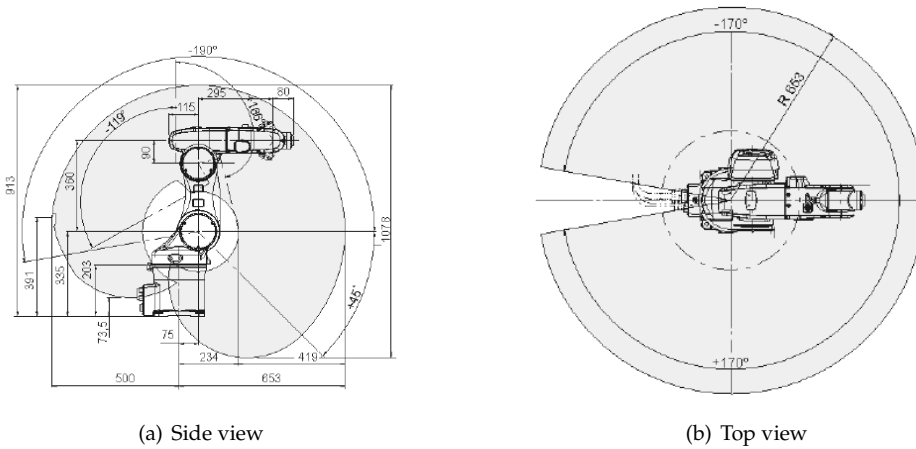

Figure 1.3: Working envelope
The working envelope diagram is presented in figure 1.3. All distances measures are in millimetres. The working envelope is 1,000 mm3. Two weaknesses of the robot is shown on the figure 1.3. It exists two dead zones where the robot cannot perform:
- On the figure 1.3(b), we can see that the robot have a dead angle of 20° behind the base.
- On the figure 1.3(a), we can see that the robot have a dead zone around the rotating column 1.1.